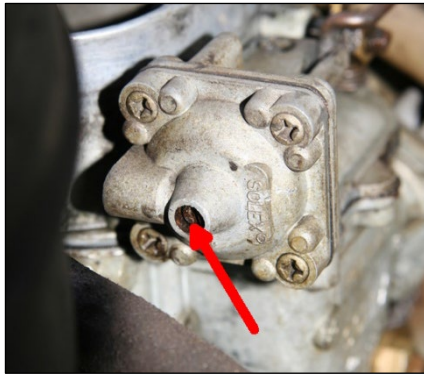
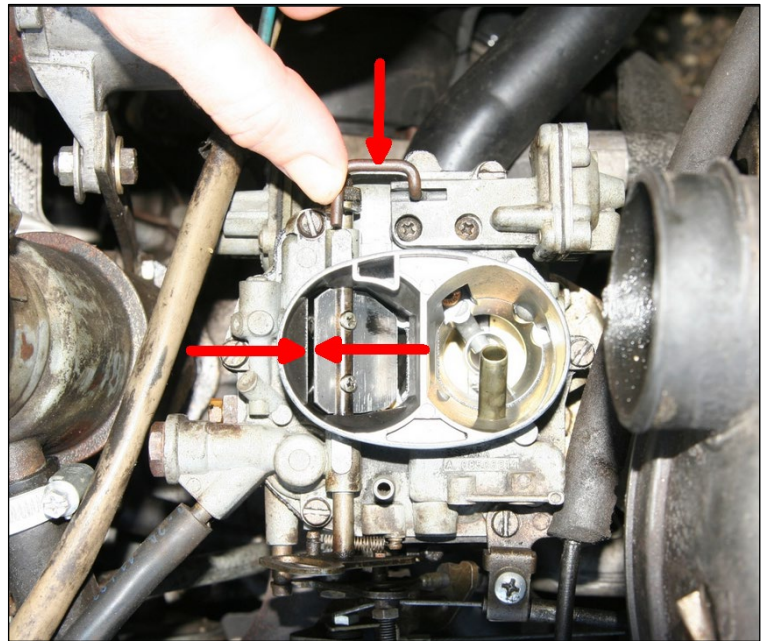

Fig. 7-11
Fig. 7-12
The choke vacuum actuator assembly on the twin-choke carburettor is shown in Fig. 7-11 above, its diaphragm being located under a metal cover secured by four screws. The central screw (arrowed) is the vacuum actuator adjusting screw. The purpose of the actuator is to open the choke plate slightly to lean the mixture once the engine starts from a cold start with a full choke, assisting in a smooth idle with the choke full on. When the engine starts, the inlet manifold vacuum acts upon the diaphragm, which moves the choke plate via the hook shown at the upper red arrow in Fig. 7-12. The actuator assembly is shown at upper right in Fig. 7-12.
2. Push the hook fitting from the vacuum actuator, shown in Fig. 7-12 at the upper red arrow, fully and firmly to the right (rearwards) and hold it there.